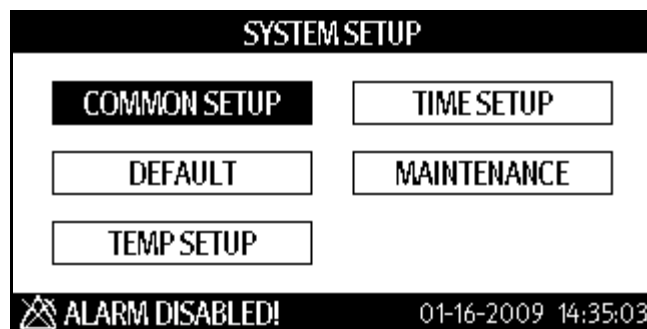

FIGURE 6-13 **SYSTEM SETUP** dialog
2. Press  to display the **SYSTEM SETUP** dialog as shown in FIGURE 6-13.
2. Press  to display the **SYSTEM SETUP** dialog FIGURE 6-13.